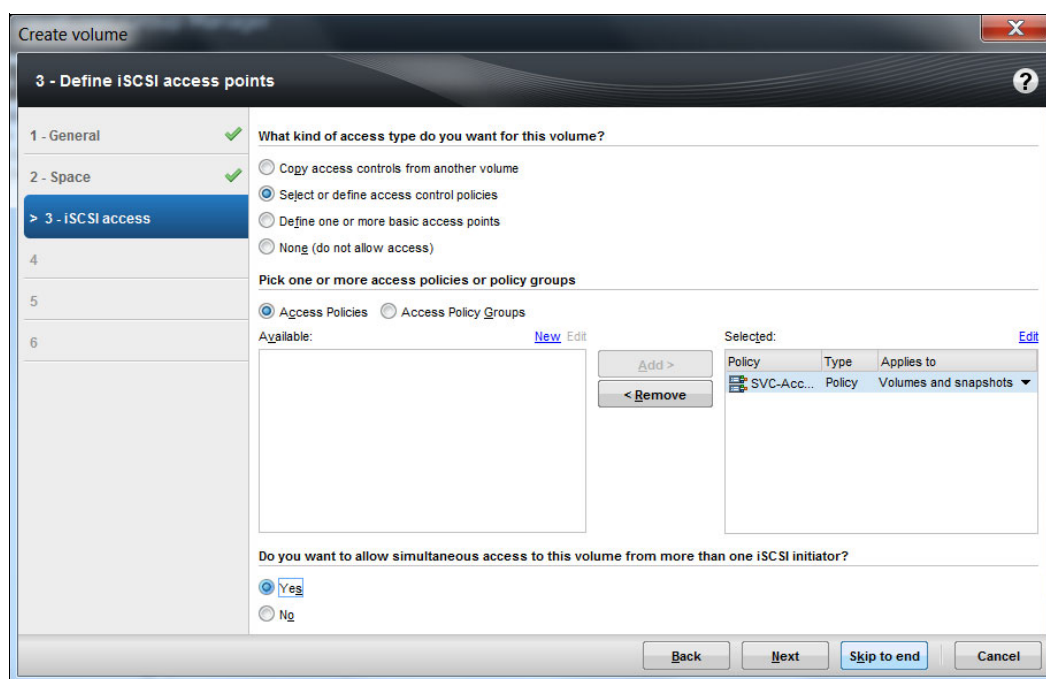

Figure 14-17 Allowing simultaneous access to more than one iSCSI initiator
7. If you need default Dell controller settings, click **Skip to end**, as shown in Figure 14-17. Otherwise, select **Next** to change the sector size and specify the size that is recommended by Dell configuration guidelines for controller virtualization.